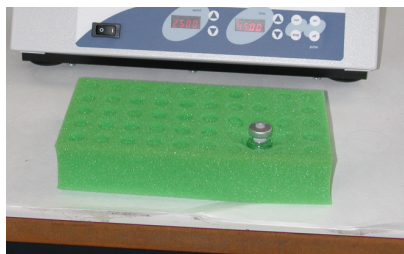

Figure 1
1. Place the vial containing GL67A and water (red crimp vial) into the foam rack (Figure 1)